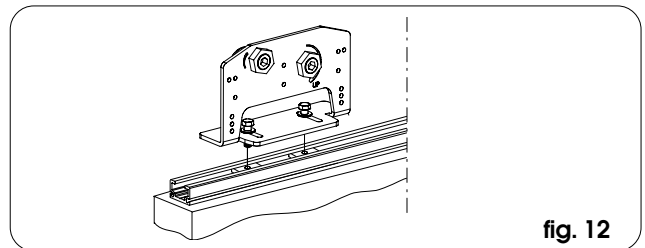
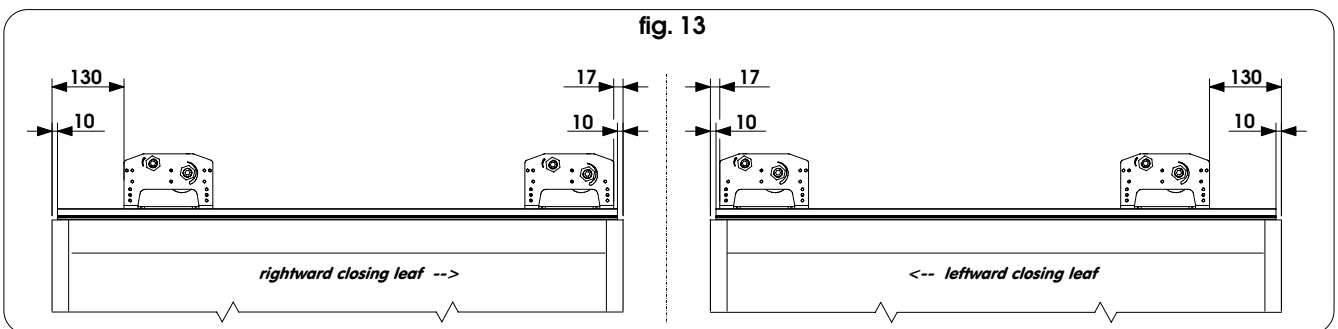
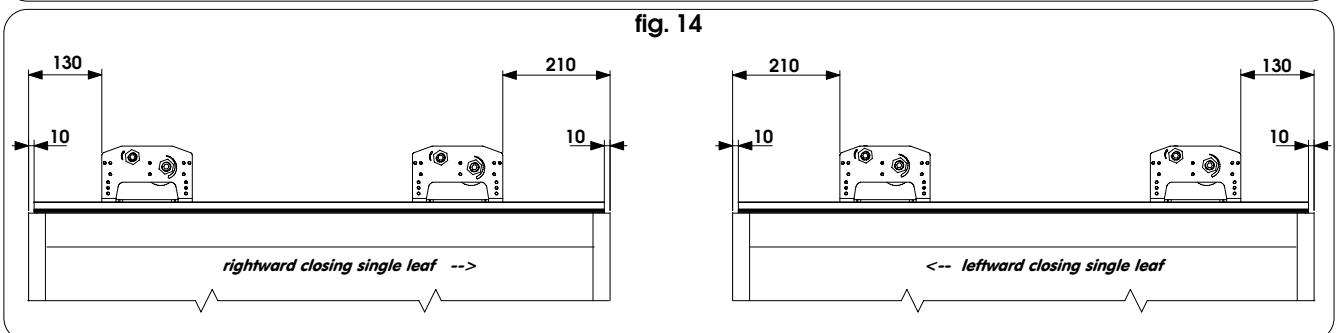

fig. 12
fig. 13
fig. 14
- Secure two carriages to each leaf, using the supplied squares and screws as shown in fig. 12. For correct positions, refer to fig. 13 (double-leaf) and fig. 14 (single-leaf).